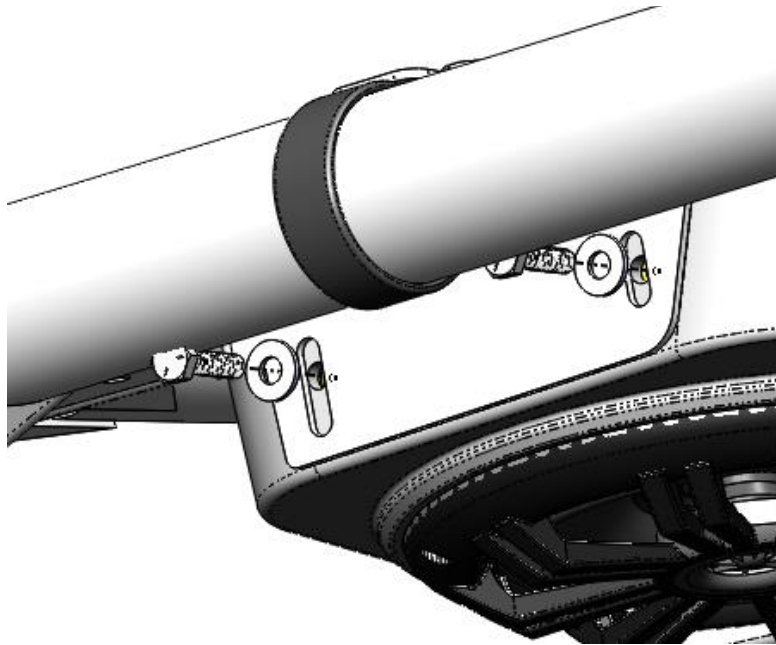
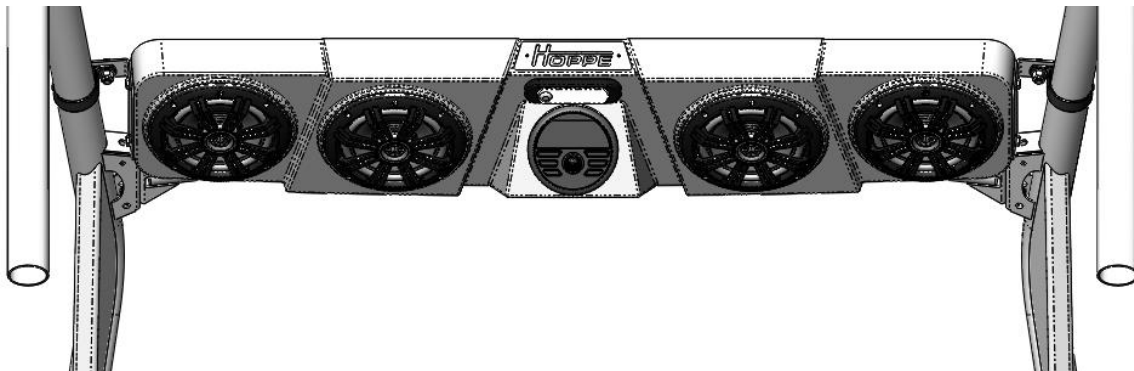

Figure 6: Install the ¼"-20 bolts and washers to mount the Audio Mini to the brackets.
Figure 7: Loosely install the sound system on the mounting brackets.
5. Using an assistant, hang the *Audio Mini* off-road sound system on the brackets using the supplied ¼"-20 bolts and washers (loosely tightened). **Note: The sound system weighs up to 25 lbs. Since you will have to lift and bolt each end, it is helpful to have an assistant for this step.** See Figure 6 and Figure 7.